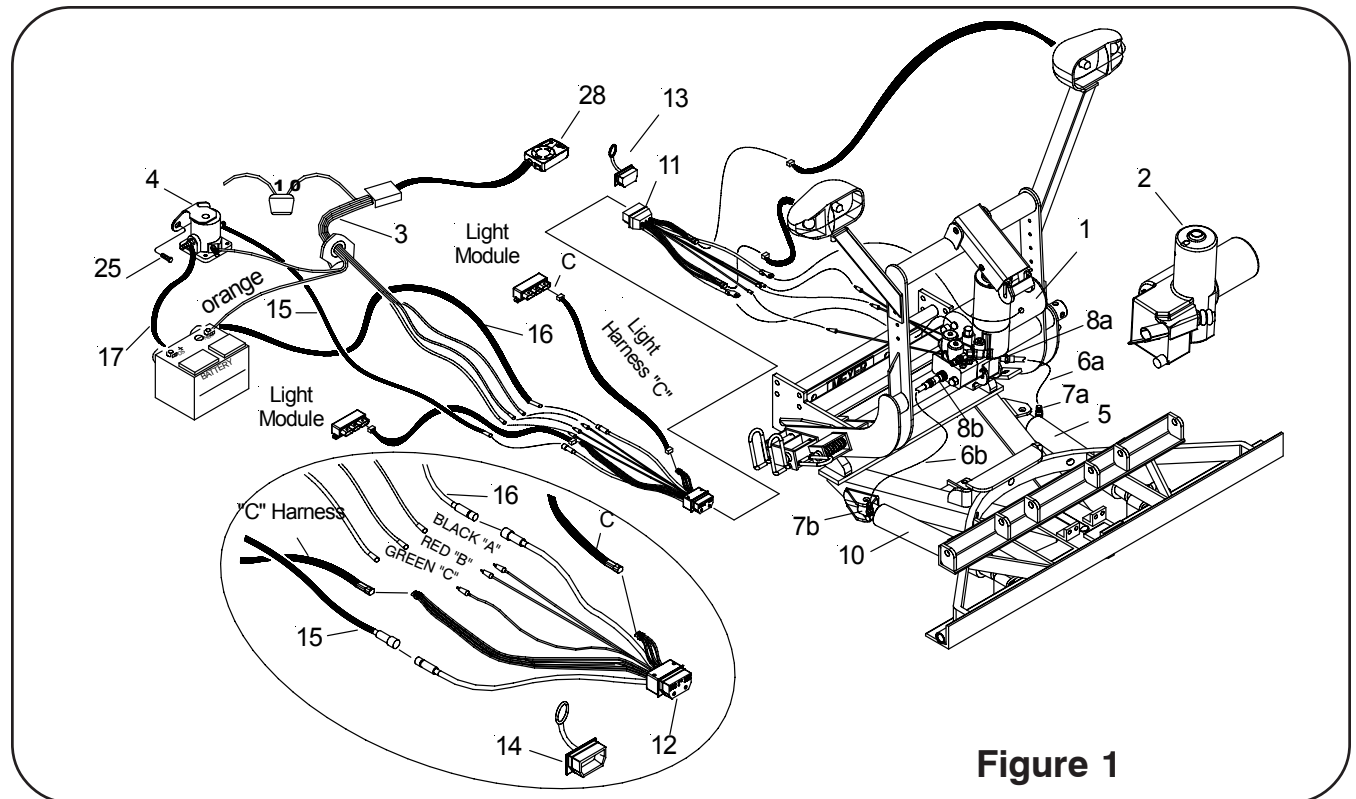

Figure 1
- J. Use Bushing (27) where Harness (3) is routed through firewall and radiator support panel. Requires 7/8" diameter hole. Be certain to route all wiring around hot or moving engine parts, and any sharp sheet metal. Protection must be provided to guard against wire damage at these points. All excess or loose wire must be neatly secured using wire ties. Fused lead from Wiring Harness (3) must be attached to terminal in fuse panel that is activated only when the ignition key is "on." The three colored wires in Harness (3), black, red and green must be connected to the black, red and green wires of the Male Plug (12). As per Figure 1.
- K. Install Starter Solenoid (4) to metal surface in engine compartment using Screws (25). (Solenoid must be grounded to operate). Attach Red Power Cable (15) to a large terminal on Starter Solenoid (4). Attach Black Ground Cable (16) to negative (-) terminal of battery. Route both Cables (15 & 16) towards Male Plug (12). Plug Cables (15 & 16) into the corresponding cables coming out of Plug (12). As per Figure 1. Attach 36" Power Cable (17) to positive (+) terminal of battery and remaining large terminal on Starter Solenoid (4). Attach small white wire from harness (3) to small terminal on Starter Solenoid (4).
Route Cables "C" (Yellow) from module to Male Plug (12). Connect both "C" Harness female ends to the male corresponding ends of the Male Plug (12). As per Figure 1.